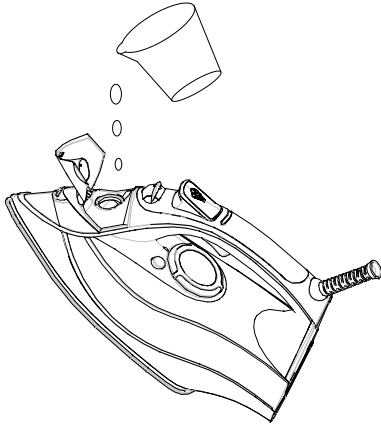

Figure 1
1. Hold the iron in a tilted position, then fill proper water into water tank. by measuring cup, you had better use purified water with less calcium particles and make sure not to exceed Max level on the tank. See fig 1.